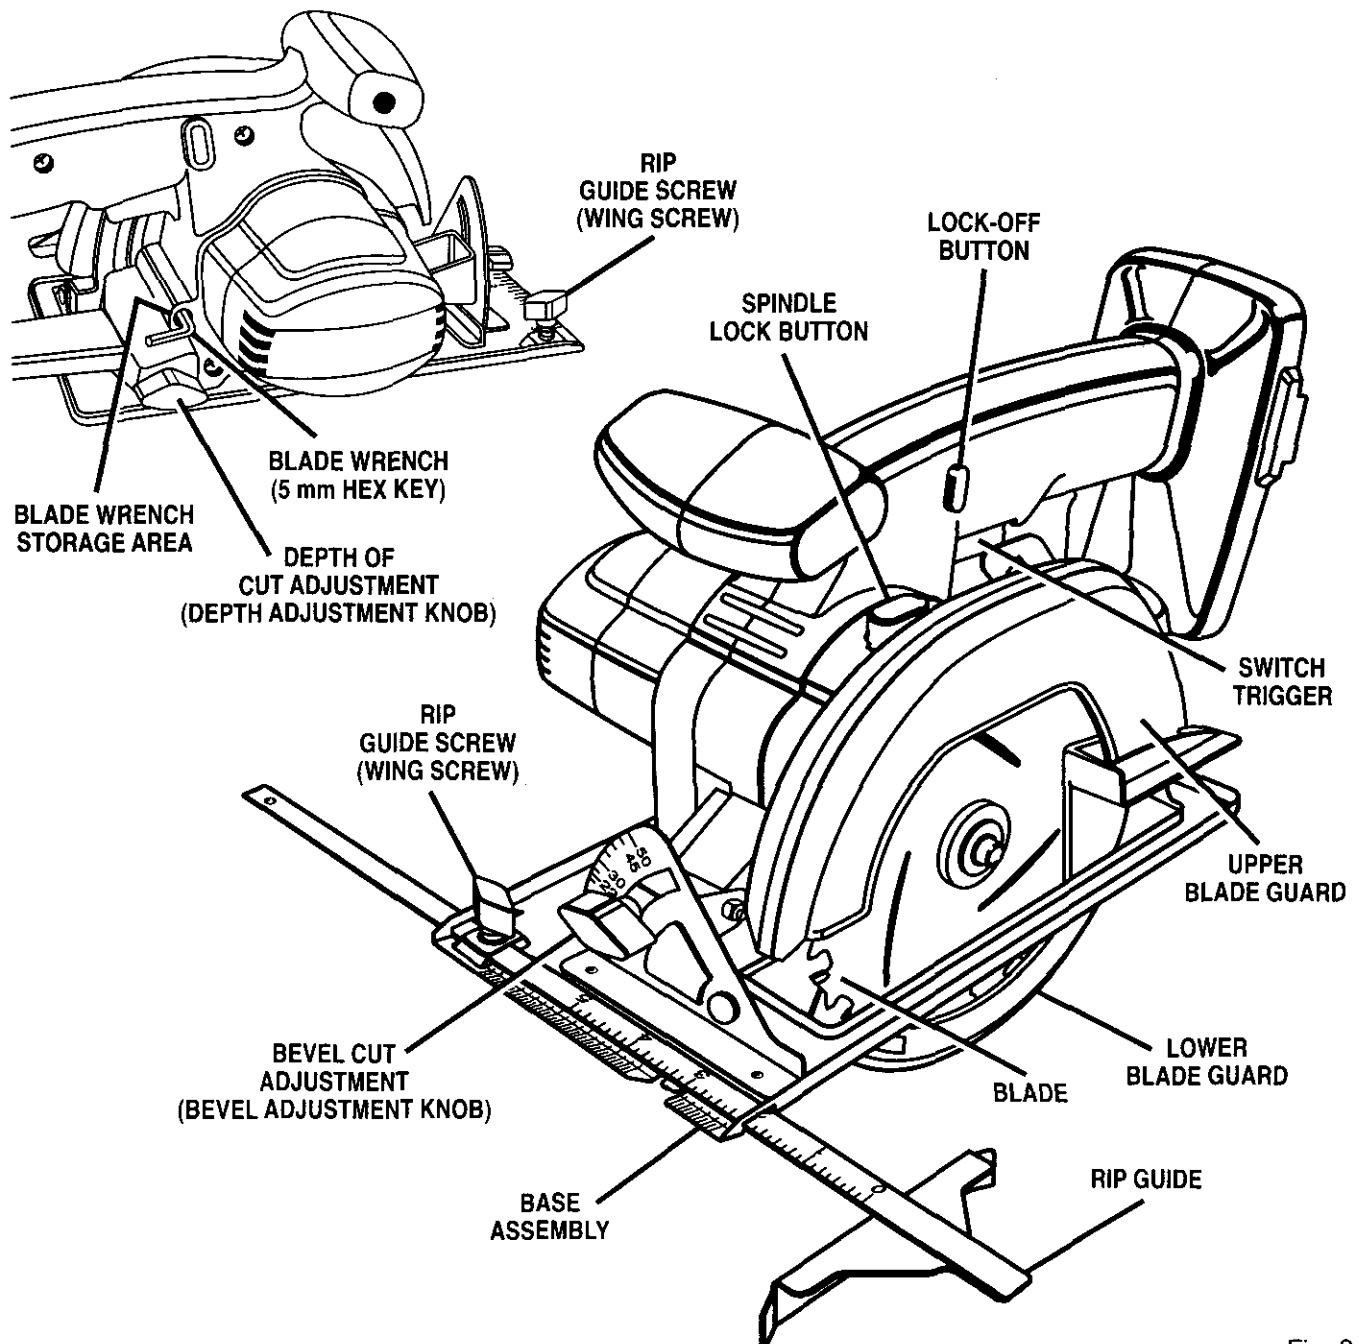

Fig. 3
See Figure 3.
- Remove blade wrench (5 mm hex key) from storage area. *See Figure 3.*